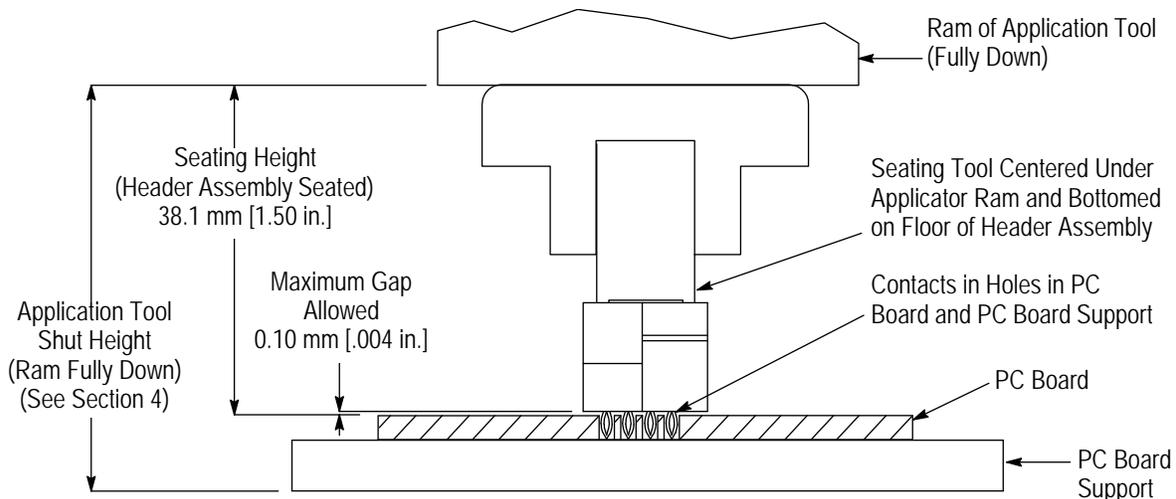

Figure 2
Set the seating height to the dimension shown in Figure 2 (application tool shut height will equal the seating height PLUS the combined thicknesses of the pc board and support fixture). After seating, a gap of no more than 0.10 mm [.004 in.] between the header assembly standoffs and the pc board is allowed.
5. SEATING (See Figure 2)
- the header assembly is seated on the pc board with the seating height-measured from the top of the header assembly to the top of the pc board-given in Figure 2